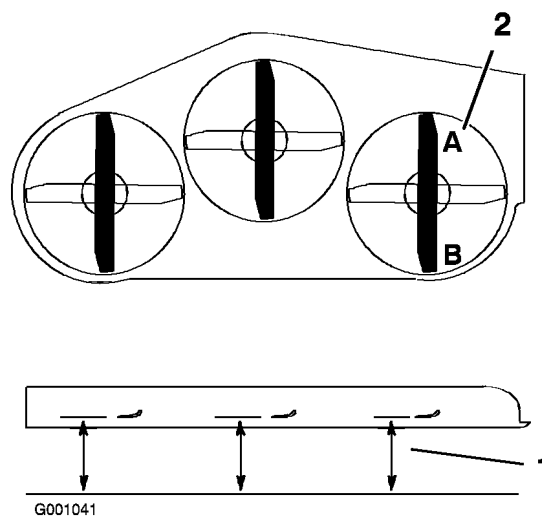

Figure 59
1. Position the **right** blade front-to-rear (Figure 59).
2. Measure the right blade at the **A** location, from a level surface to the cutting edge of the blade tip (Figure 59).
4. Measure the right blade at the **B** location, from a level surface to the cutting edge of the blade tip (Figure 59).
6. The mower blade should be a 1/4 to 3/8 inch (6 to 10 mm) lower at position **A** than at position **B** (Figure 59). If it is not correct, proceed to the following steps.